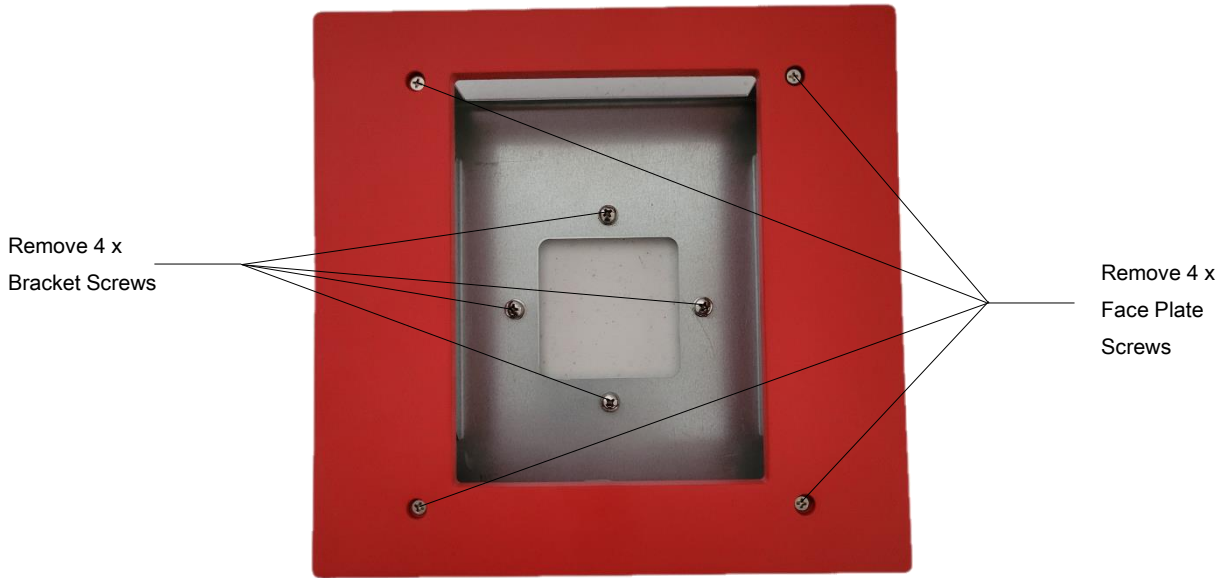

Figure 26: APV3-BDA - Flush Mount Kit Face Plate and Bracket Screw Removal
Follow the below instructions, Figures 26 through 29, to flush mount the APV3-BDA:
- Remove the (4) Philips head screws holding the faceplate to the mounting bracket. Do not discard screws as these will be used to reinstall the face plate. Remove the face plate.
- Remove the (4) screws that are attached to the mounting bracket from the factory. These screws will be used in the next step to attach the APV3-BDA standard mounting bracket to the flush mount bracket. See Figure 26 below.